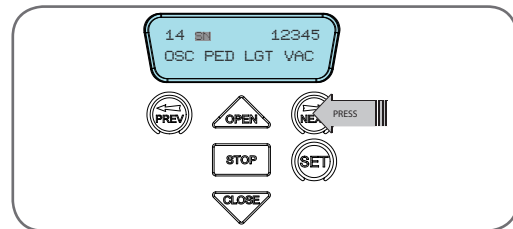

fig 34
5. Press NEXT to reveal the Serial Number (**Fig. 34**).